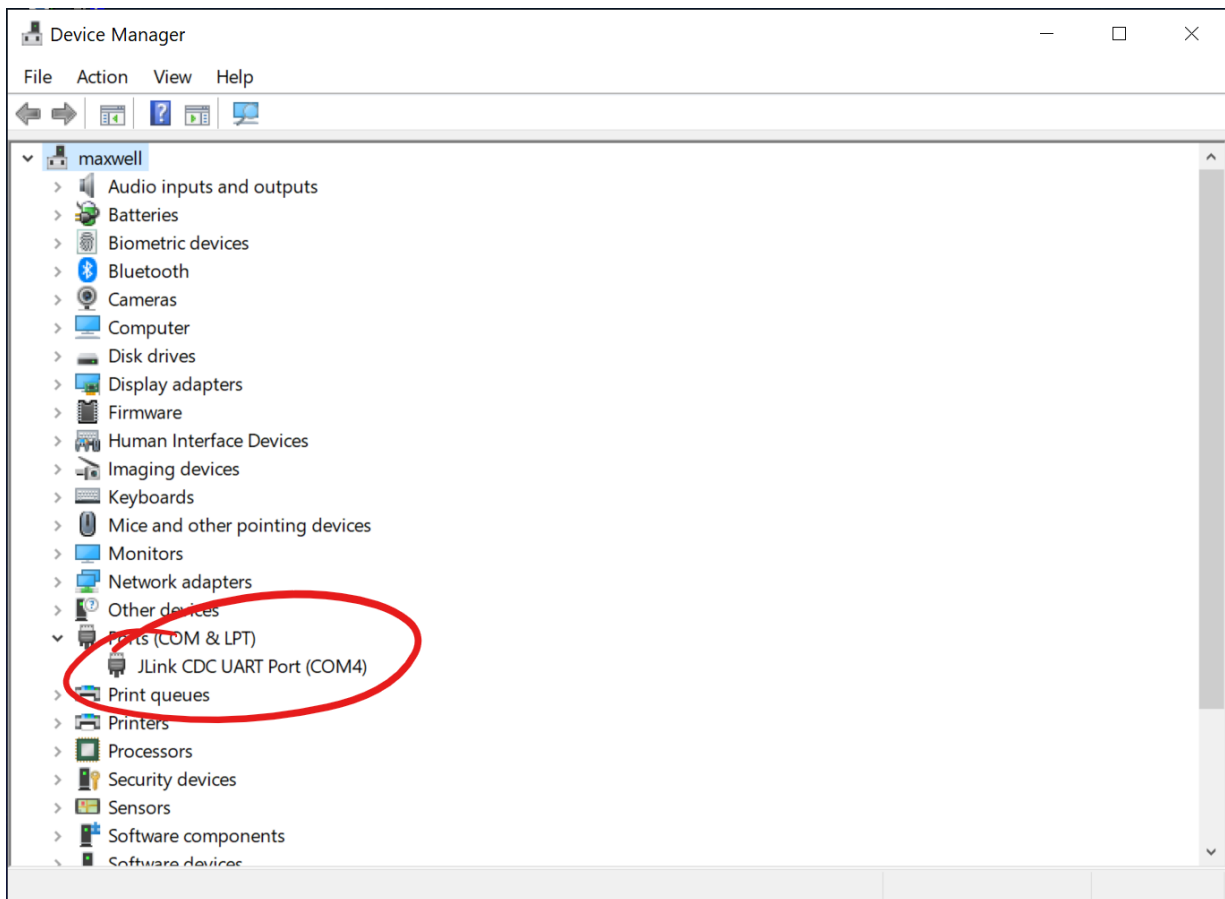

Figure 2 Windows Device Manager COM port list.
5. Take note of the COM port number in Device Manager as shown in Figure 2 (COM4 in this example).